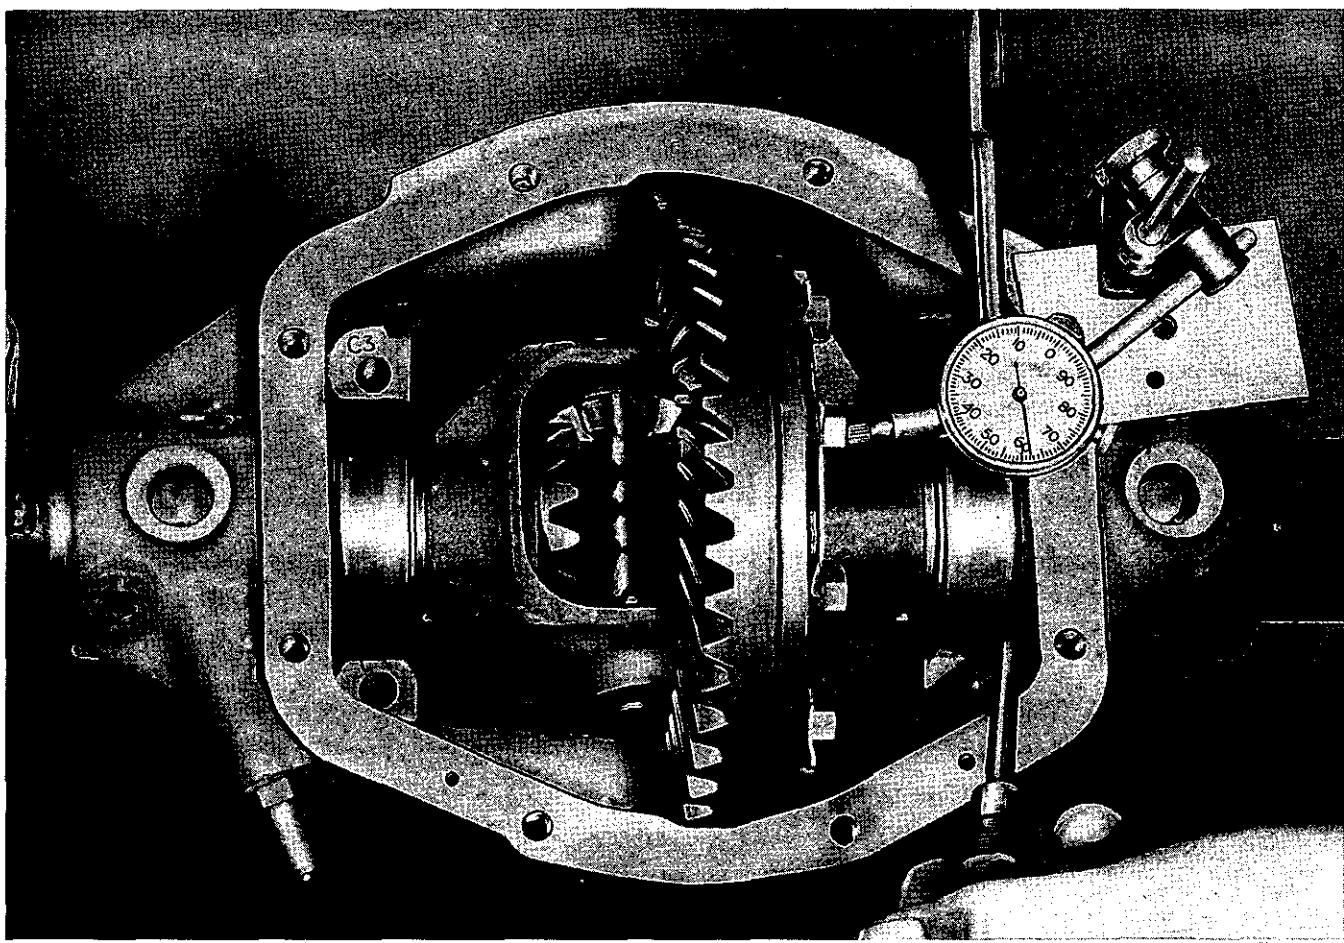

Fig. 18. Checking Differential Assembly for lateral movement in axle casing.
the plunger resting on the back of a crown wheel bolt, as shown in Fig. 18. The assembly is forced away from the dial gauge as far as possible and then the indicator set to zero. The assembly should then be levered in the opposite direction without tilting until the taper rollers go hard home if the dial gauge, .062" for example, indicates the total side float in the differential assembly. This latter reading is noted for reference later in the sequence of operation.
14. The differential assembly is again installed in the axle casing and a dial gauge fitted on the casing so that the plunger of the dial gauge bears against the back of a crown wheel bolt as shown in Fig. 18.